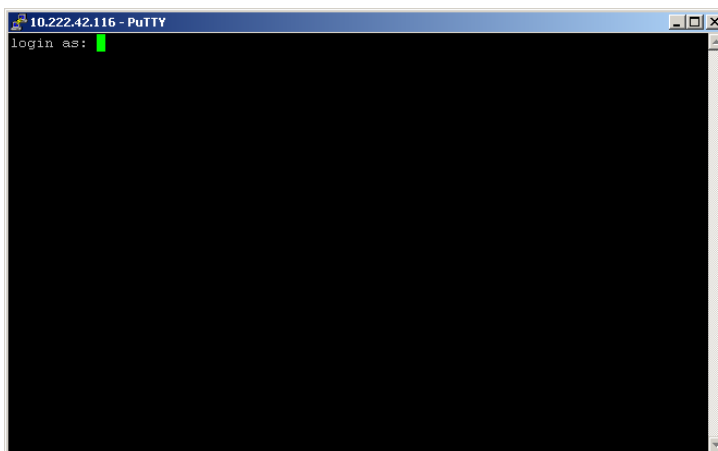

Figure 30. Login Prompt Window
6. Select **Open**. The login prompt window opens (establishing communication may take 10–20 seconds). See Figure 30.